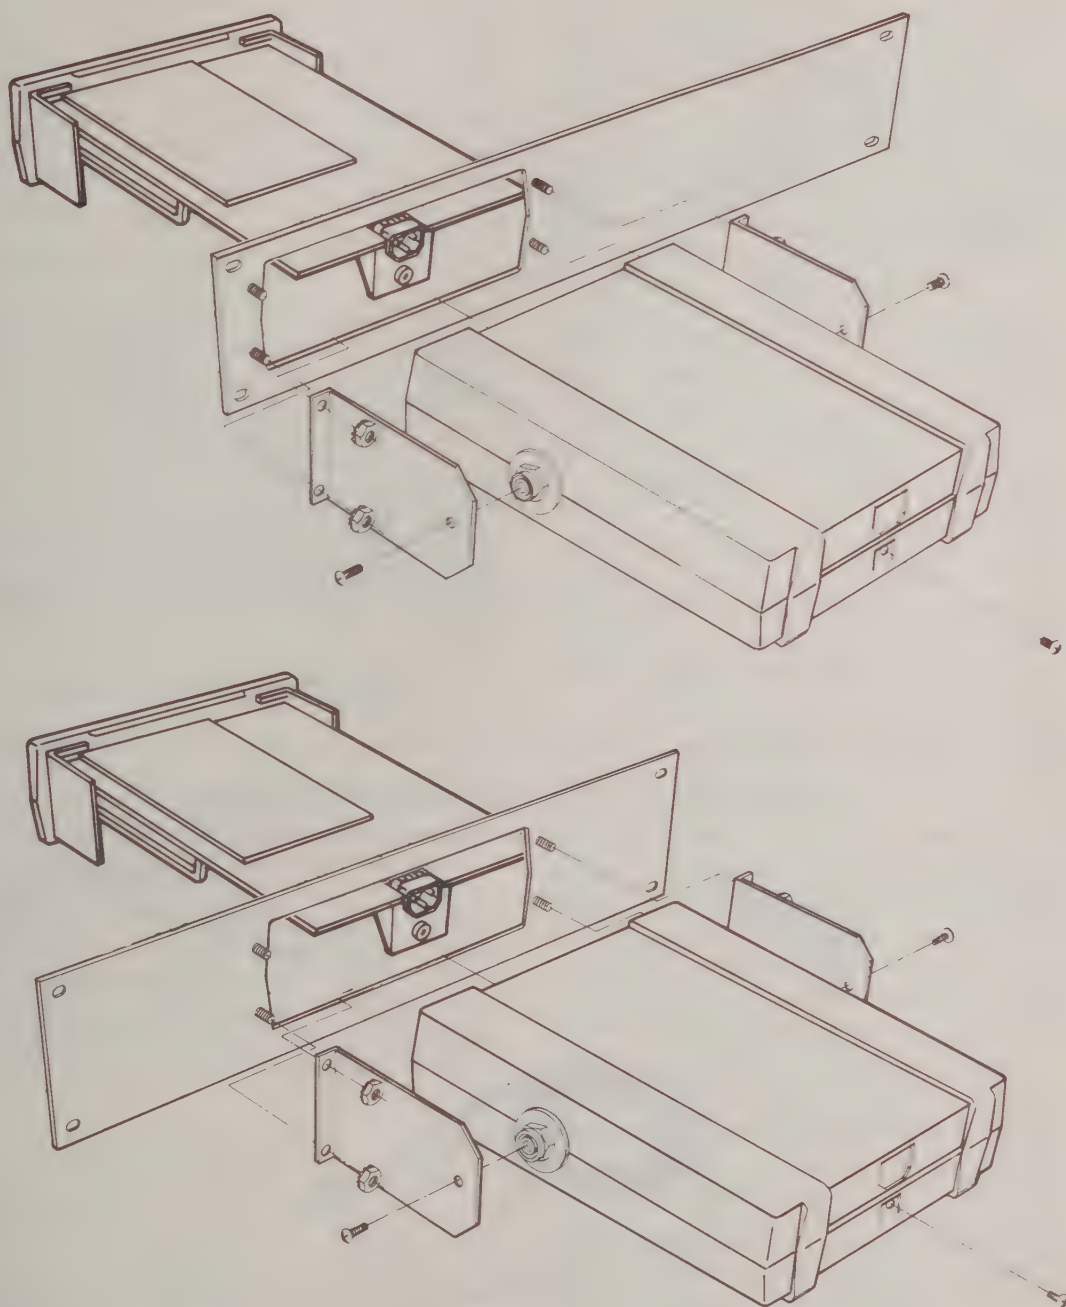

Figure 600-3. Rack Mounting Kits, Offset and Center Mounting
- 3. Install the side mounting brackets, as shown in Figure 600-3 and secure them to the mounting panel using the nuts provided.